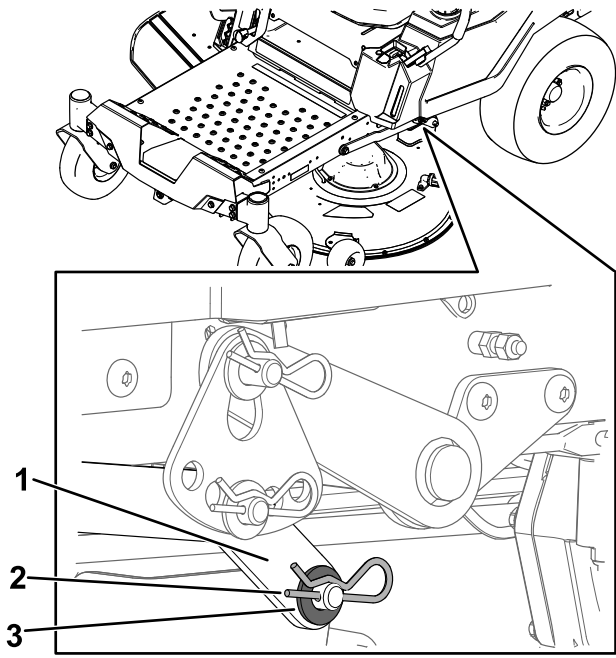

Figure 68
- On 1 side of the machine, remove the washer and hairpin cotter from the deck pin (Figure 68).
- Remove the lift arm from the deck pin (Figure 68).
- On 1 side of the machine, lift the rear of the mower deck and install the lift arm to the deck pin (Figure 68).
- Install the lift arm using the washer and hairpin cotter (Figure 68).